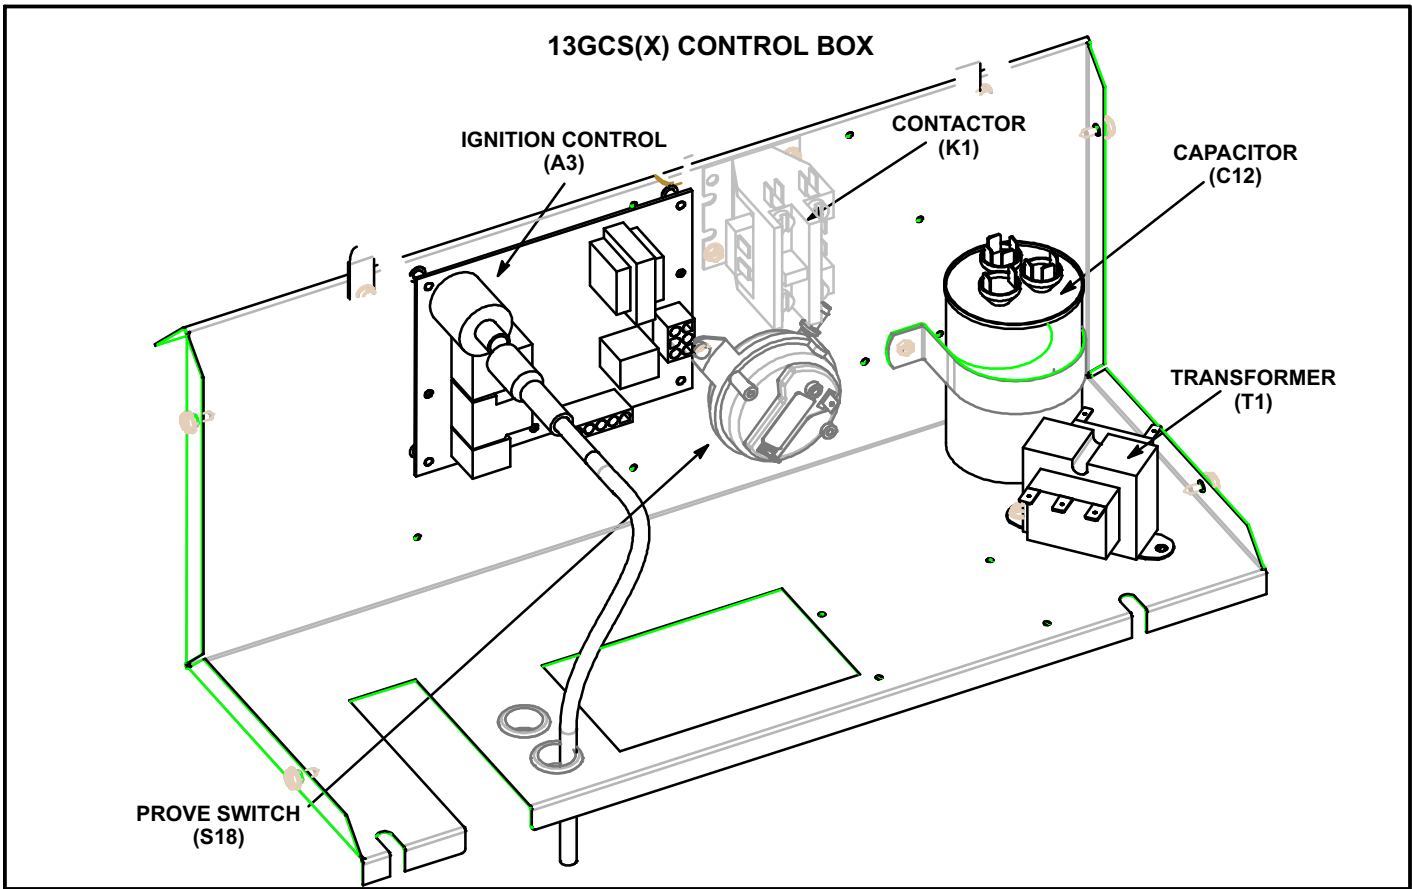

FIGURE 2
13GCS(X) control box components are shown in figure 2.